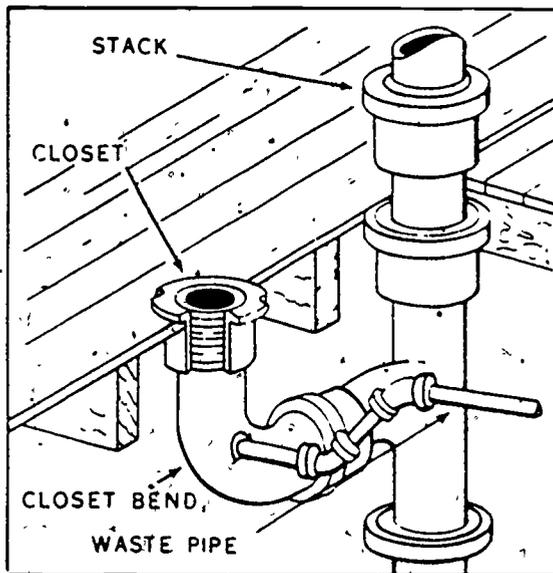

Figure 3-14 Discharging bathtub and shower waste into a closet bend
in figure 3-14, and the fixture traps may be back vented into the vent stack.
**Water Closet Drainage and Vent Methods.** Usually, the location of a water closet in a structure governs the location of the soil stack. The plumbing system is normally designed so that the soil branches discharge into the soil stack with a minimum horizontal pipe run. Additional venting is not required when the water closet discharges directly into a soil stack through a closet bend, as shown in figure 3-14.